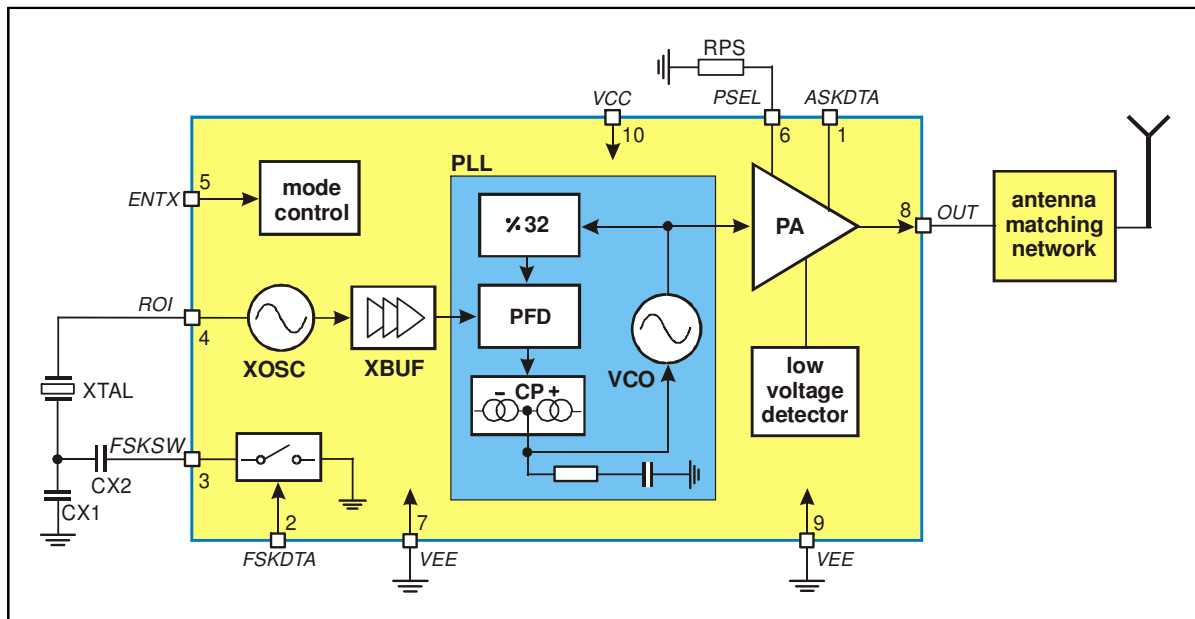

Fig. 1: Block diagram with external components
As depicted in Fig.1, the TH72015 transmitter consists of a fully integrated voltage-controlled oscillator (VCO), a divide-by-32 divider (div32), a phase-frequency detector (PFD) and a charge pump (CP). An internal loop filter determines the dynamic behavior of the PLL and suppresses reference spurious signals. A Colpitts crystal oscillator (XOSC) is used as the reference oscillator of a phase-locked loop (PLL) synthesizer. The VCO's output signal feeds the power amplifier (PA). The RF signal power P_{out} can be adjusted in four steps from $P_{out} = -12$ dBm to $+10$ dBm, either by changing the value of resistor RPS or by varying the voltage V_{PS} at pin PSEL. The open-collector output (OUT) can be used either to directly drive a loop antenna or to be matched to a 50Ohm load. Bandgap biasing ensures stable operation of the IC at a power supply range of 1.95 V to 5.5 V.